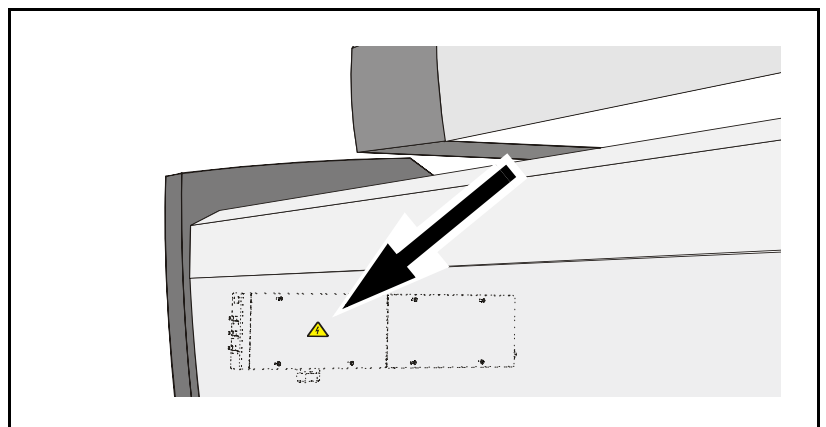

Figure 1-8. Sign on the PIU, inside the machine.
- One sign on the Power Input Unit (PIU) cover, inside the machine, see Figure 1-8.